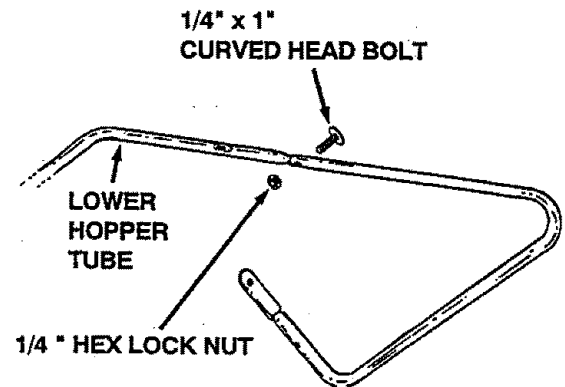

FIGURE 11
- Assemble the two lower hopper tubes together using a 1/4" x 1" curved head bolt and a 1/4" hex lock nut. See figure 11.